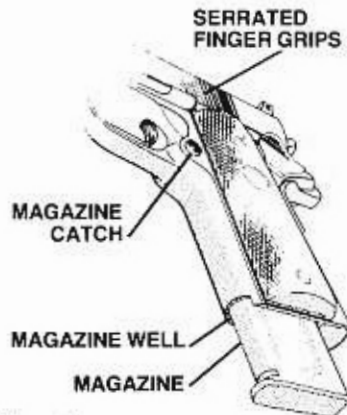

Figure 4 Inserting and Removing a Magazine
2. Remove empty magazine from pistol (after placing your hand under magazine to prevent it from falling) by pressing magazine catch (located on left of pistol behind trigger guard) to release and eject magazine from magazine well. (See Figure 4.)